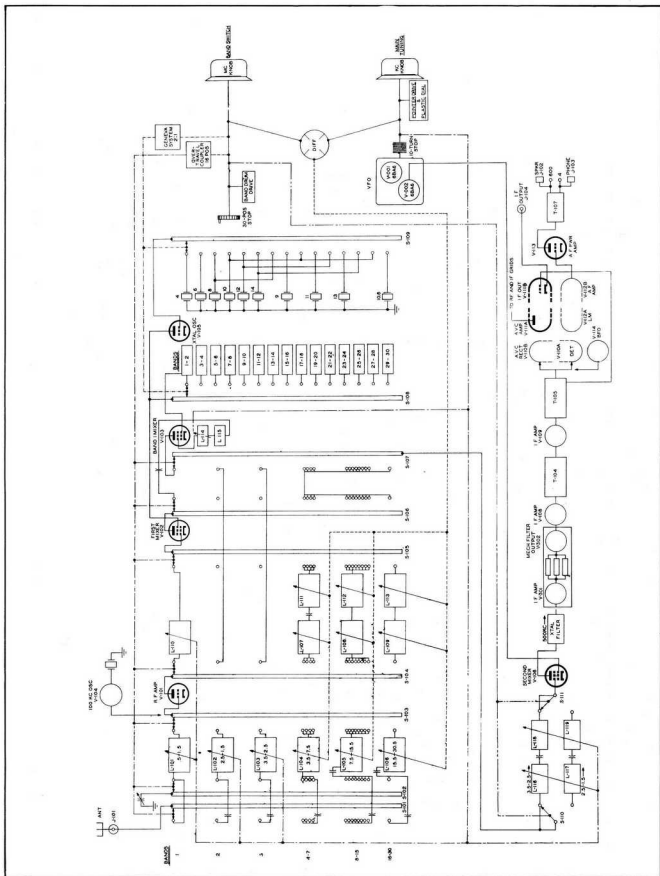

Figure 4-1. 51J-4 Band Change and Tuning System, Block Diagram
4.1.1. BAND CHANGE. - Collins 51J-4 Receiver covers the frequency range of 0.5 to 30.5 mc in 30 bands: 0.5 to 1.5, 1.5 to 2.5, and so on up to 30.5 mc. Each band is one megacycle wide. Circuits affected by band changes are the r-f amplifier grid, first, second, and third mixer grids, crystal selector, and crystal harmonic tuning circuits. The third mixer is switched in only on band 1 (.5 to 1.5 mc). See figure 4-1.
4.2.2. RADIO FREQUENCY AMPLIFICATION. - One stage of radio frequency amplification is used on all bands. See block diagram, figure 4-1. The circuit is a conventional r-f amplifier circuit employing a type 6AK5 miniature r-f pentode, V101.